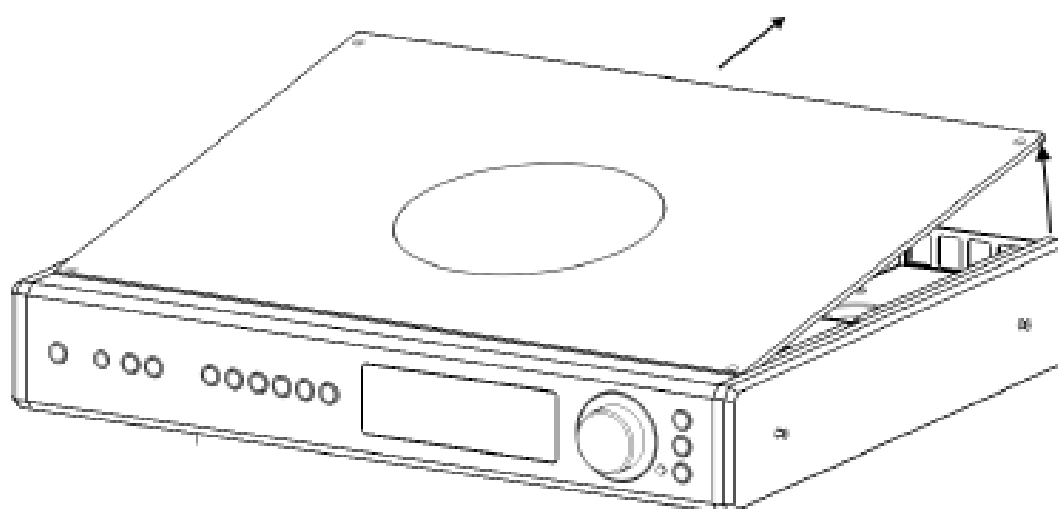

Abb. 2 / Fig. 2
- Remove the top cover as shown in figure 2 and 6.